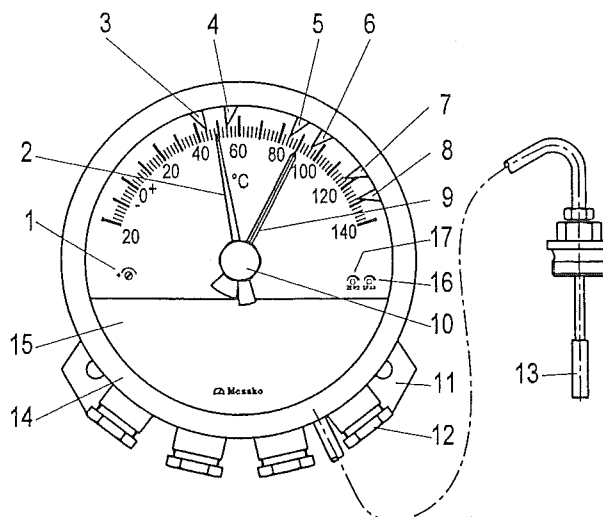
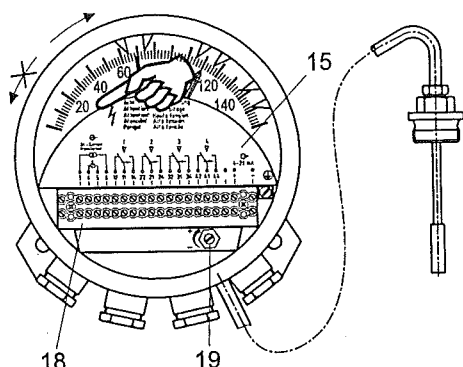
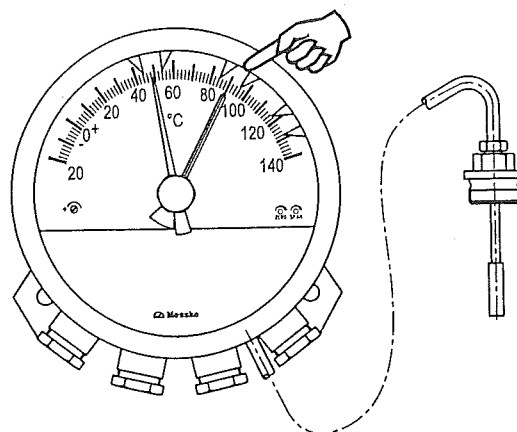

Fig.1
Fig.3
Fig.4
The pointer-type thermometer is fixed to the transformer with a mounting plate (Fig.1/item11). The 9mm holes are at 140mm centres. The pointer-type thermometer should be installed in a location where it will not be subject to vibration or mains voltage fluctuations.
### 2.3 Temperature bulb (Fig.1/item13)
### 2.5 Bayonet fixing ring (Fig.1/item14)
To make electrical connections and to set and test the microswitches it is necessary to remove the bayonet fixing ring. Turn it anti clockwise to the limit and then lift it off. While screwing the bayonet fixing ring make sure that the position of the maximum pointer (Fig.1/item9) is correct. This must be to the right of the pointer (Fig.1/item2). Replace the front ring and turn it clockwise to the limit.
### 2.6 Maximum pointer (Fig.1/item9)
The maximum pointer is operated by the pointer and records the maximum reading reached when measuring the temperature. The maximum pointer can be adjusted with a button (Fig.1/item10).
Before opening the terminal cover (Fig.1/item15),
Remove the bayonet fixing ring. To make an electrical connection lift the terminal cover (Fig.3). Cut back the cover on the leads approx. 160mm and insert the leads through the Pg screw connections (Fig.1/item12). The nut of the cable gland is tightened until the cable seal is waterproof. The individual leads are then connected in accordance with the connection diagram on the inside of the terminal cover. Depending on the number and type of microswitches the terminals are allocated in accordance with figures 7 or 8 on page 12. Close the terminal cover and replace the bayonet fixing ring.
Remove the bayonet fixing ring. Turn the pointer gently by hand clockwise (Fig.4), past the microswitch. A return spring pulls the indicator back to the original position. During this procedure, do not release the indicator, but lead it slowly back to its original position.
Manually bring the microswitches (Fig.1/item3-8) to the desired position: move the microswitch at the casing and not at the tip (Fig.4).
Zero is set using the "ZERO" Potentiometer (Fig.1/item 17) such that the output current is 4mA when the pointer is at the start of the scale. The potentiometer marked "SPAN" (Fig.1/item16) is used for setting the maximum output current 20mA at the maximum value on the scale. Both settings are factory set and must not be changed. For this reason the potentiometers are paint sealed to prevent them from being turned.
Operate indication control and comparison measurements only in moving water baths, which maintain a constant temperature for a period of several minutes. Readjustments are possible, however, the maximum temperature is 2° Celsius. The adjustment screw (Fig.1/item1) is on the inside of the cover plate.
The heating current is measured across 1  $\Omega$  (see figure 9, page 12). The numerical value of the heating current in "A" therefore corresponds to the measured voltage in "V". Consequently, a high-resistance voltmeter (rather than an ammeter), set to "V" is used to set the heating current  $I_H$ . Lift up the terminal cover (figure 1, item 15). Attach the voltmeter to terminals 4 and 5. Read the heating current  $I_H$  for the desired temperature jump "K" from the setting curve (figure 10, page 14) and use the set screw (figure 3, item 19) to set the current for the matching resistor. Turn the setscrew to the right to increase the heating current and turn it to the left to reduce the current. Once the setting is complete, remove the voltmeter and close the cover plate.